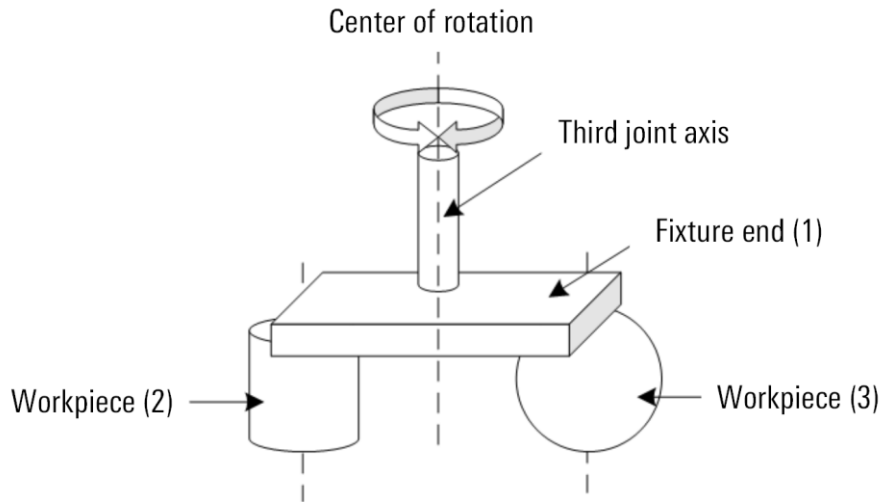

Figure 5-12 Diagram of calculating load moment of inertia
As shown in Figure 5-12, the calculation example of the rotational inertia (torque) of the load (end of the fixture holding the workpiece) is presented. The rotational inertia (torque) of the entire load is obtained by summing up parts (1) to (3).